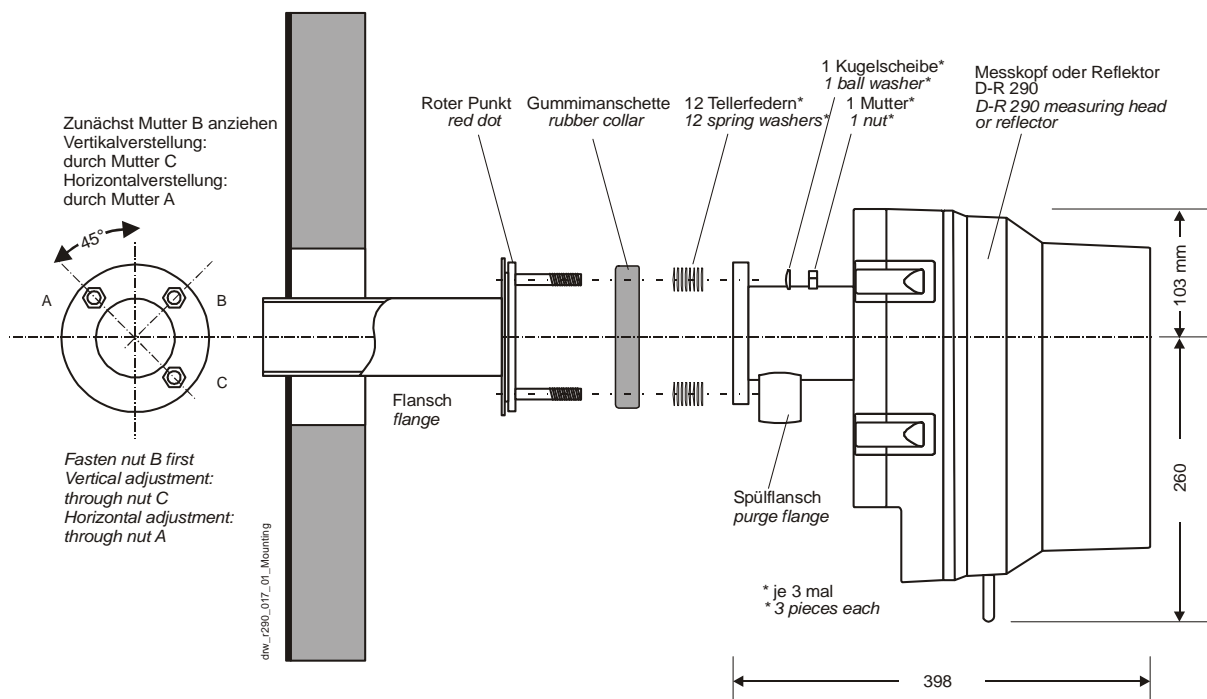

Fig. 7: Mounting on the alignment flange
2. If the measuring head and the reflector have been mounted like it is shown on Fig. 7:, the 3 nuts on the reflector flange can be tightened. First tighten the nut B on the measuring head.